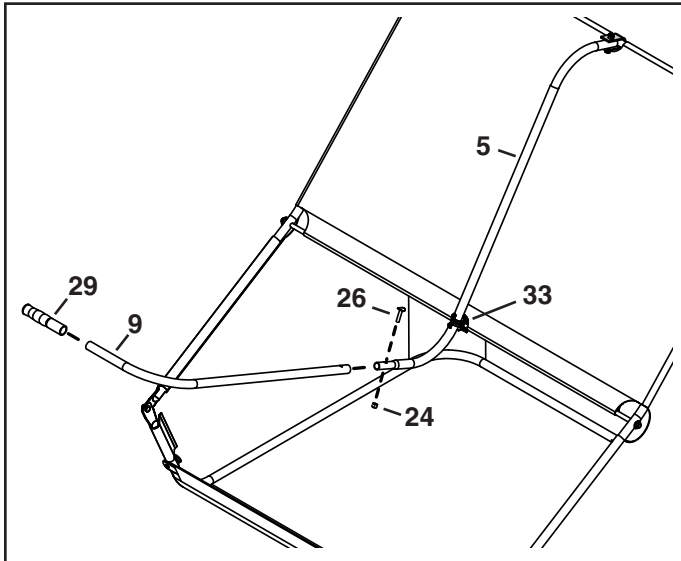

FIGURE 17
29. Flip the dump tube (5) forward to rest on top of the hopper bag.
30. Snap the dump handle clip (33) onto the pivot rod.
31. Slide the handle grip (29) onto the end of the handle tube (9) as shown in figure 17.
32. Assemble the handle tube (9) to the dump tube (5) and secure in place with a 1/4" x 1" curved head bolt (26) and 1/4" nylock nut (24). See figure 17.